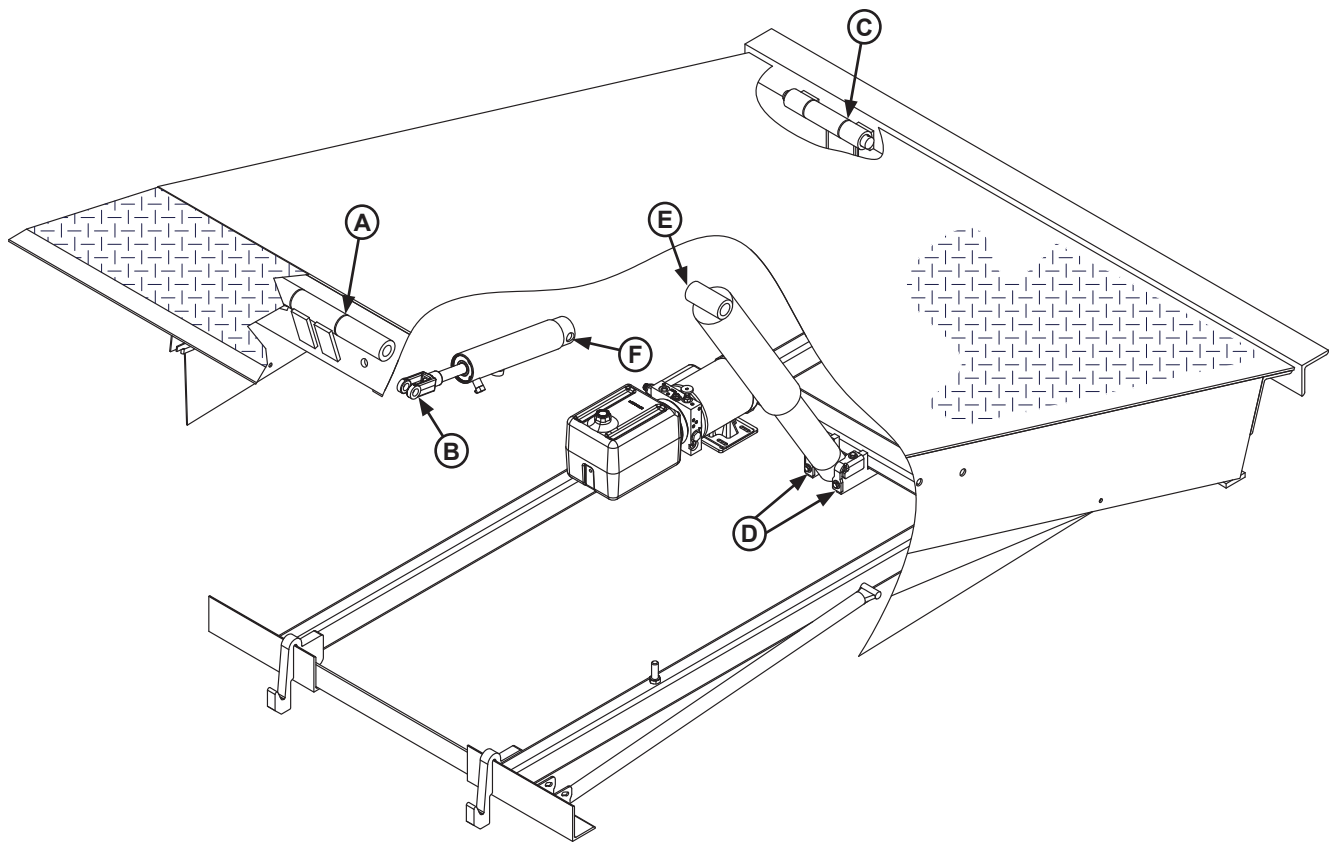

Figure 23
- Lubricate the following areas with light weight machine oil (see Figure 23):
- (A)— Lip hinge area unless equipped with grease fittings (apply oil to the top of the entire length of lip hinge when platform is at the full below-dock position and lip is folded)
- (B)— Lip lifter and lift cylinder pin
- (C)— Platform hinge area (apply oil to top of all platform hinges when platform is at the full below-dock position)
- (E)— Platform cylinder-to-platform frame pin
- (F)— Lip cylinder-to-platform frame pin
- Lubricate the following areas with white lithium grease (see Figure 23):
- (D) — All platform cylinder trunnions